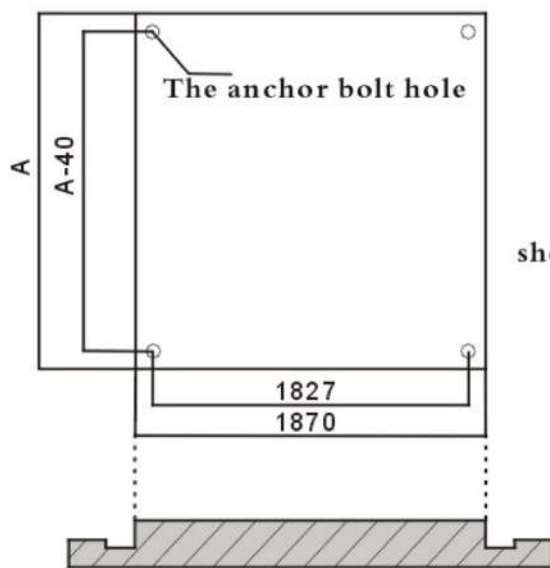
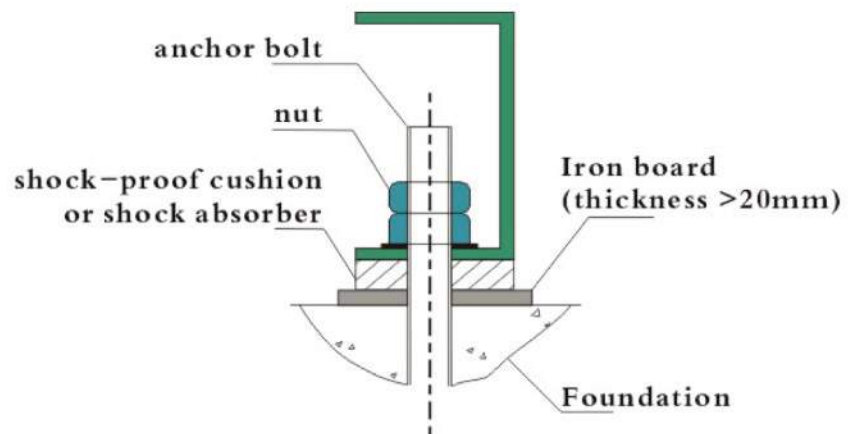

Figure1 Foundation for installation
Figure 2
1. Figure 1 indicates how to install one single module, please pay attention to the real project size.
2. If you choose the configuration in Figure 2, please refer to the anchor bolt position in Figure 1. Preserve the installation holes for anchor bolts or the shock absorber fixing hole.
3. The user should supply the power supply wire for the single compressor unit, for example, the single system unit shown in the figure, and it should be equipped with one breaker, to get more information, please refer to Figure 1.
4. The user should supply the power supply wire for the dual compressor unit, for example, the single unit only shown in the figure, also it should be equipped with one breaker, for getting more information, please refer to Figure 2.